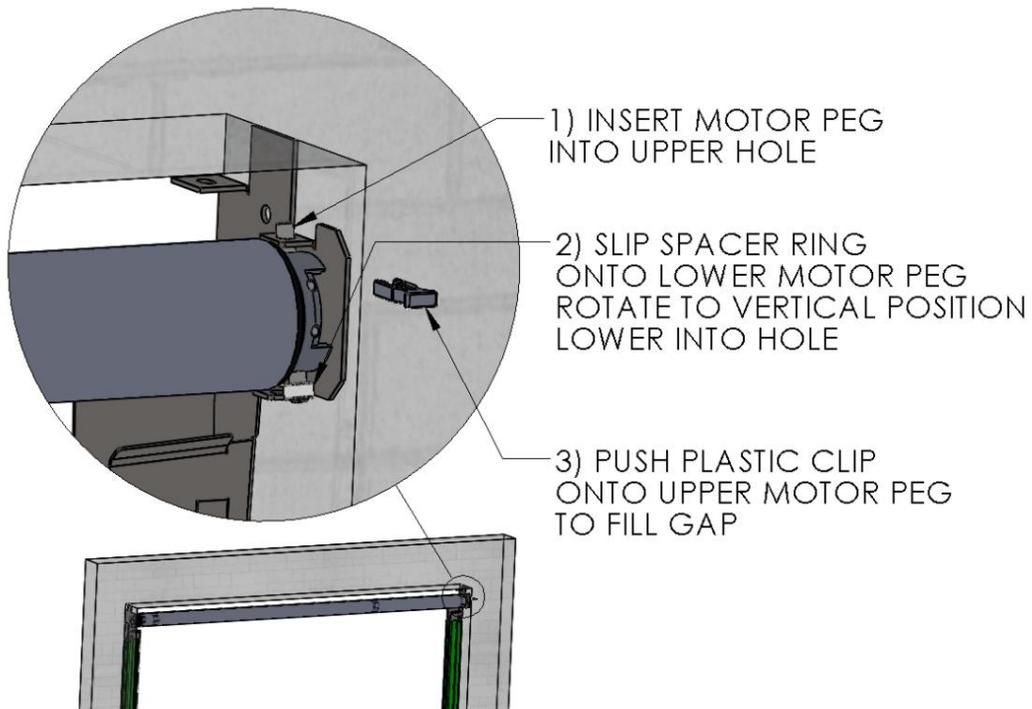

Figure 6 Insert Motor Peg, Spacer, Clip
5. At the Drive/Motor side, insert the Upper Motor Peg fully into upper hole of Header Mounting Bracket. (Figure 6 Insert Motor Peg, Spacer, Clip)
6. Slip the plastic Ring onto Lower Motor Peg, and insert the Lower Motor Peg into lower hole on the Header Mounting Bracket. (Figure 6 Insert Motor Peg, Spacer, Clip)
7. Insert the plastic Clip onto Upper Motor Peg to fill space between the Bracket and Motor. (Figure 6 Insert Motor Peg, Spacer, Clip)